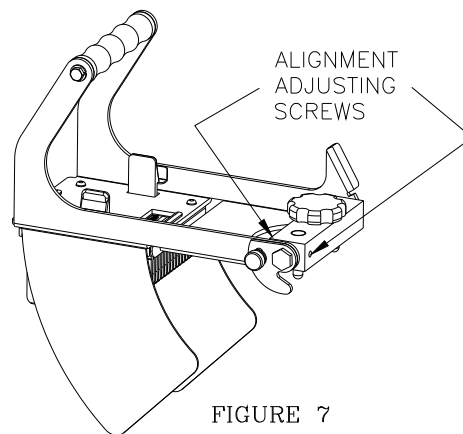
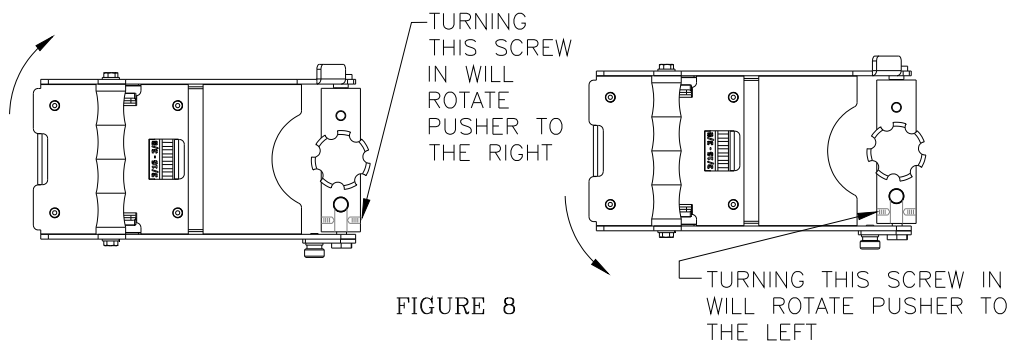

FIGURE 7
FIGURE 8
2. Locate the alignment adjusting screws shown in figure 7. Determine which direction the pusher should rotate by observing where the pusher fingers align in between the blades. Using a small standard screwdriver you can turn the appropriate screw to rotate the pusher left or right. When adjusting a screw inward the opposing screw must be turned outward or loosened first. Center the pusher fingers and tighten the opposing screw. See figure 8 below. Check alignment again after tightening and adjust again if needed.